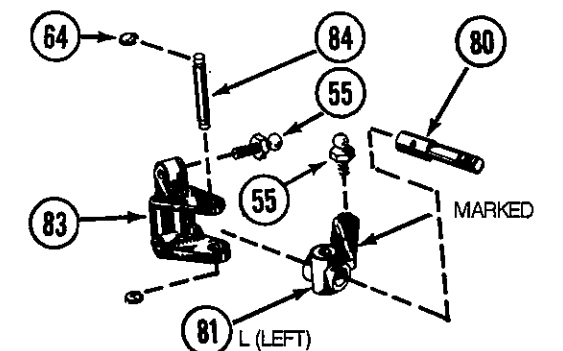

FIG. 35
6. Slide front axle (80) into spindle (left 81, right 82) so that spindle arm extends down and away from threads in front axle (80) and hinge pin holes are aligned. Fig. 35.
7. Insert spindle assembly in spindle carrier (83) so letter L or R on spindle (81) (82) arm faces up and holes line up. Fig. 35.
8. Insert 1/8" x .690 hinge pin (84) through spindle assembly and spindle carrier (83) and secure with 1/8" E-clip (64). Fig. 35.
9. Thread one 3/8" studded ball joint (55) into hole in post on spindle carrier (83) so that it points out to hole in spindle (81) (82) arm. Fig. 35.
10. Thread a 3/8" studded ball joint (55) into hole in spindle (81) (82) arm so ball is on same side as letter. Fig. 35.